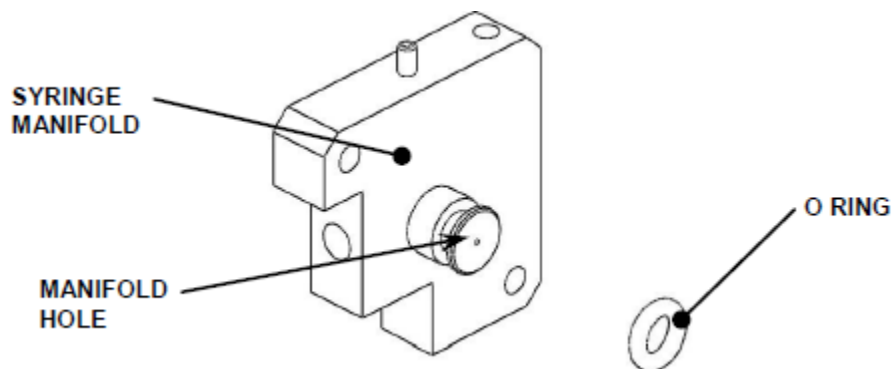

Figure U-27: Fitting the O-Ring
10. Apply Silicone Grease (Dow Corning 44) to the Syringe Manifold before fitting an O-Ring. Ensure that the grease does not block the manifold hole (Figure U-27). Check manifold passage is unobstructed with compressed air can; attached 10mm PTFE tube out the end hole of Syringe Manifold to blow air to other end manifold hole.